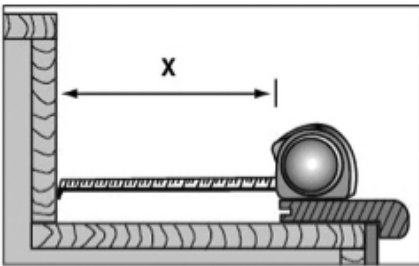

Fig. 16
5. Dry fit the stair nose to the edge of the first tread with the molding nose overlapping the flooring piece on the riser below. Measure the distance from the edge of the stair nose to the next riser (Fig. 16).